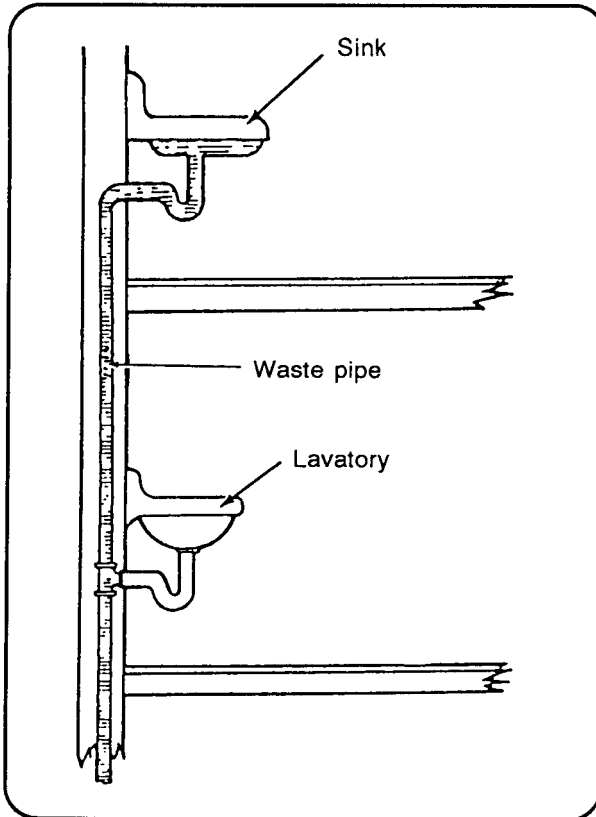

Figure 9-4. Indirect siphonage
c. *Indirect or Momentum Siphonage.* Indirect siphonage (Figure 9-4, page 9-4) is caused by a large discharge of water from a fixture installed one or more floors above the affected fixture. This large discharge tends to form a slug in the stack; and as this slug passes the takeoff of the fixture below it, air is pulled out of the waste line on the lower fixture. This reduces the pressure on the discharge side of the trap. There is no reseal until there is a discharge from the lower fixture.